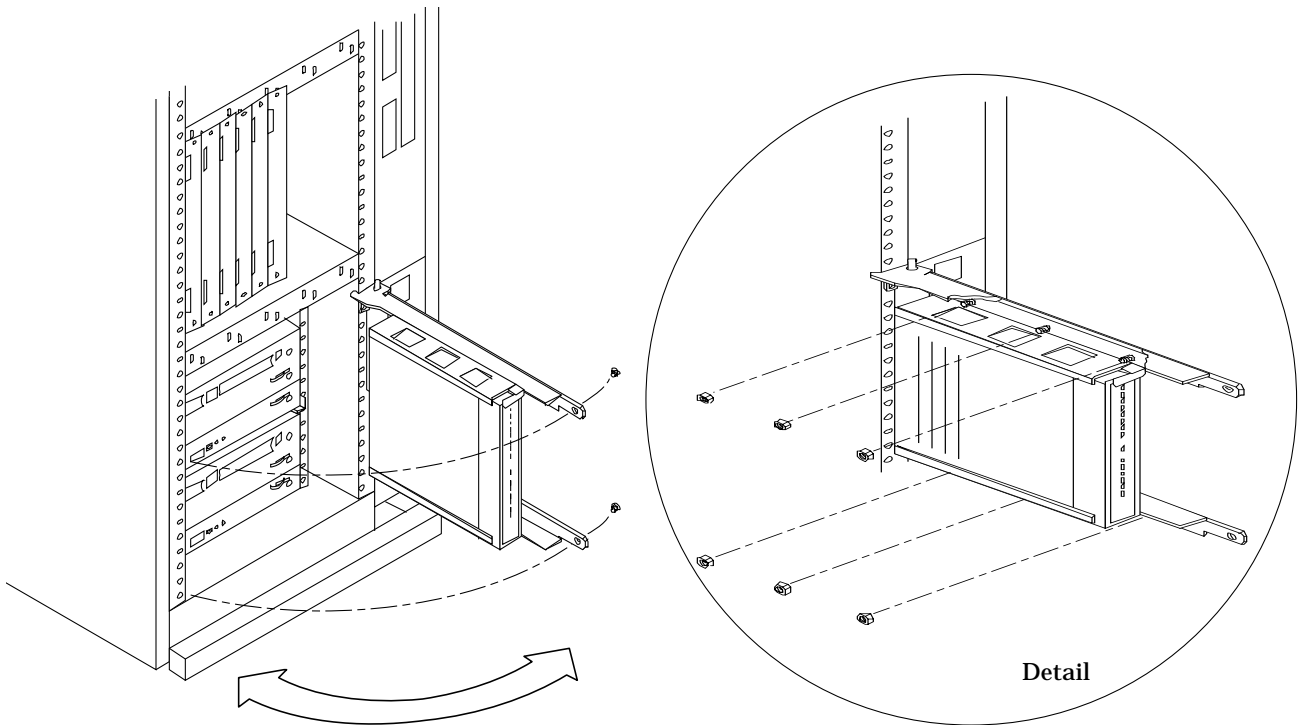

Figure 9-6 Terminal Concentrator Removal/Replacement
To gain access, remove the two securing screws and then swing the bracket out and to the right as shown in Figure 9-6.
4. **Remove three nuts from each of the terminal concentrator side brackets, and then remove the terminal concentrator from the cabinet mounting bracket as shown in Figure 9-6,**